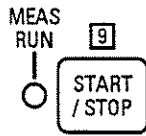

Figure 3-8 [START/STOP] Key
3.2.6 [START/STOP] [9]: See Fig 3-8.